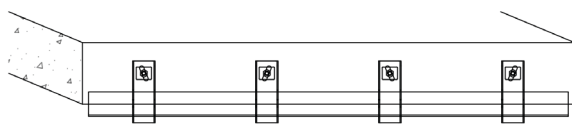

Figure 4: Insert Shelf Angle
- C** Insert shelf angle and adjust Brackets so that shelf angle is level and positioned correctly. Tighten anchor bolts securely to structural backing. (Figure 4)